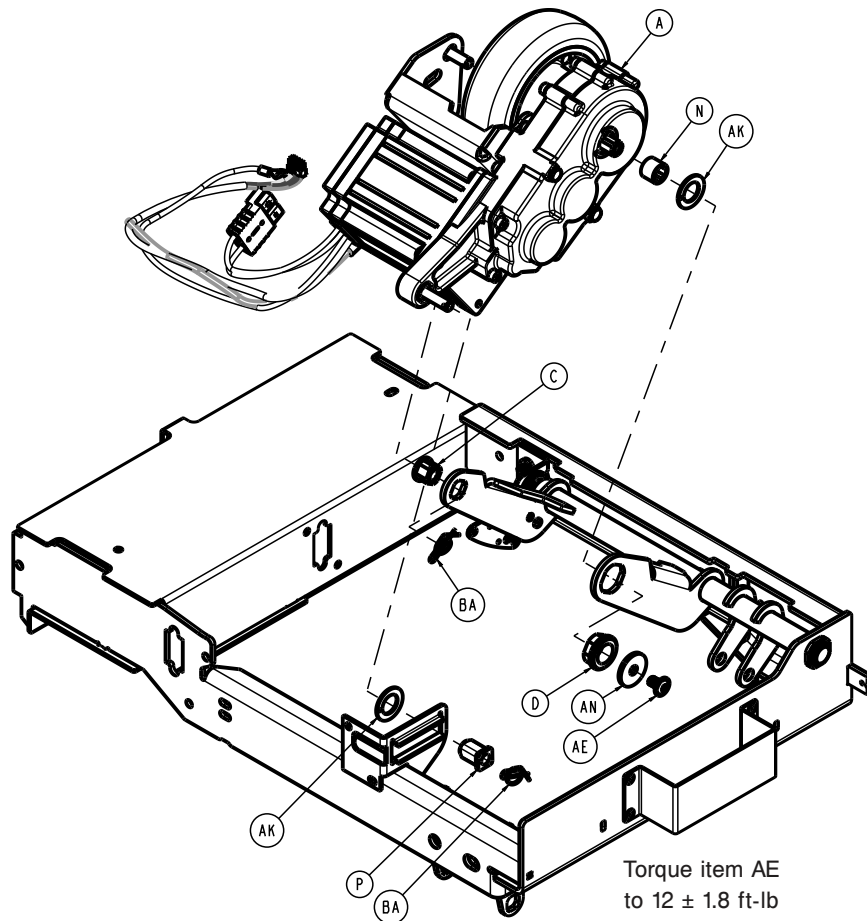

Figure 49 – Removing the Zoom motor/wheel assembly
12. Lift up on the actuator spring cartridge and using a T27 Torx driver, remove the screw (AE), washer (AN), and bushing (D) that secure the motor/wheel assembly (A) to the crank weldment (Figure 49). Save the screw, washer, and bushing.
- 13. Using needle nose pliers, remove the rue ring cotter (BA) from the motor/wheel assembly (A) (Figure 49). Save the rue ring cotter.
- 14. Using diagonal pliers, cut the two cable ties (BC) that secure the motor cables to the frame weldment.